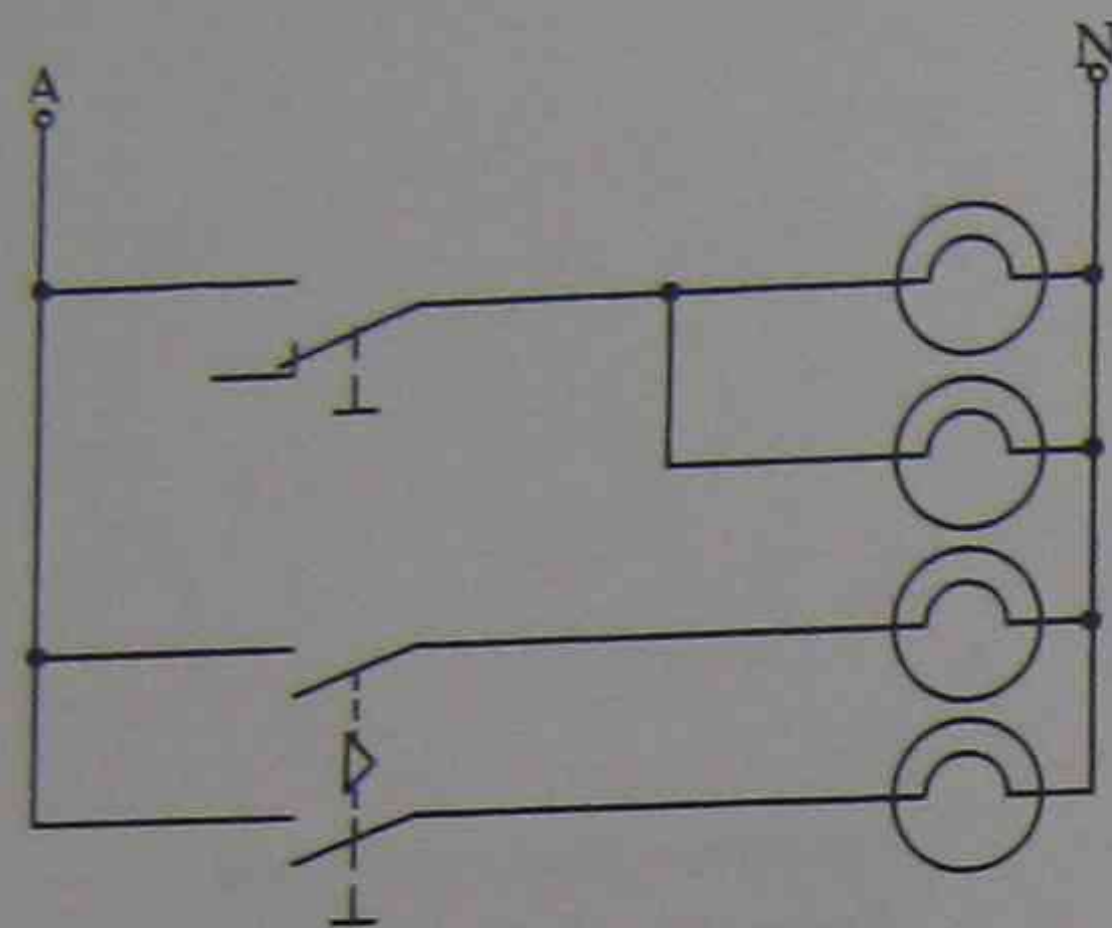

Figure 4 Circuit diagram – switching circuit
1. For the circuit in Figure 4 select suitable switches to perform the switching functions shown in the circuit diagram. Label each switch with the switch type and place terminal numbers for each switch on the circuit diagram
2. Convert the circuit diagram shown in Figure 4 to a wiring diagram. Sketch the appropriate switch and lamp panels to show the layout of the equipment.